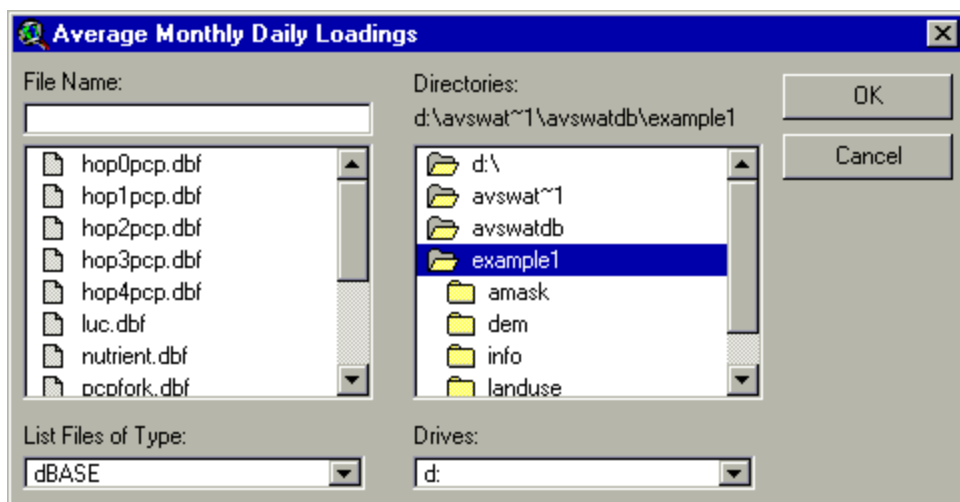

Figure 9.12
- iii. A browser will be displayed, allowing the user to select the dBASE file (.dbf) or text file (.txt) file containing the point source data from disk (Figure 9.12).